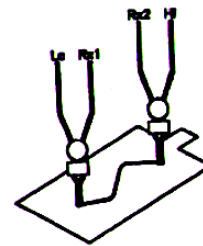

Fig. 4
5. Connect the 2 Kelvin clips as following Fig. 4 to measure the unknown resistance between two test points, such as PCB layout.